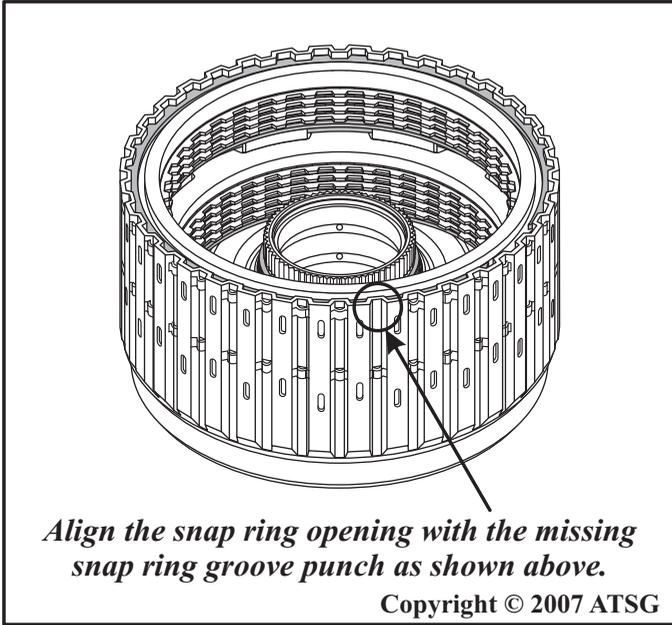

Figure 102
- Note:** The snap ring opening must be aligned with the missing snap ring groove punch in the housing, as shown in Figure 102.